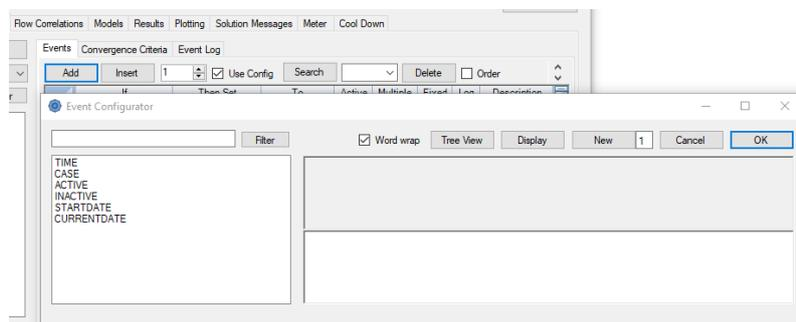
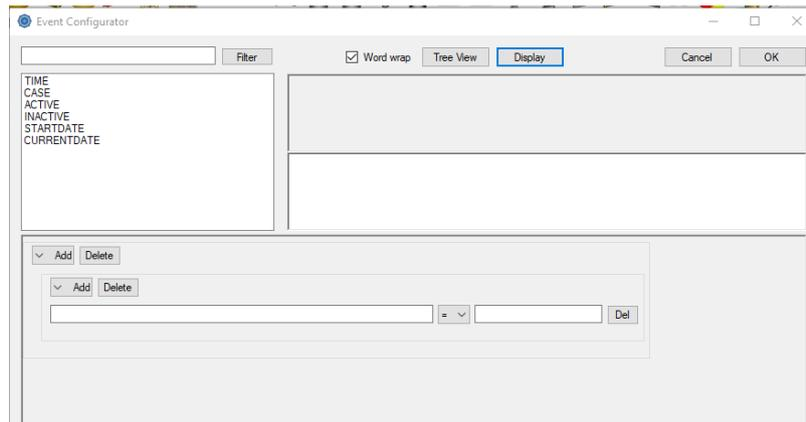

Figure 36: Events Configurator (initial screen)
Figure 37: Events Configurator (after New)
Once selected the Add event will activate the events configurator as in Figure 36
- Select New from Figure 36 and the dialog changes to Figure 37 with 1 new level